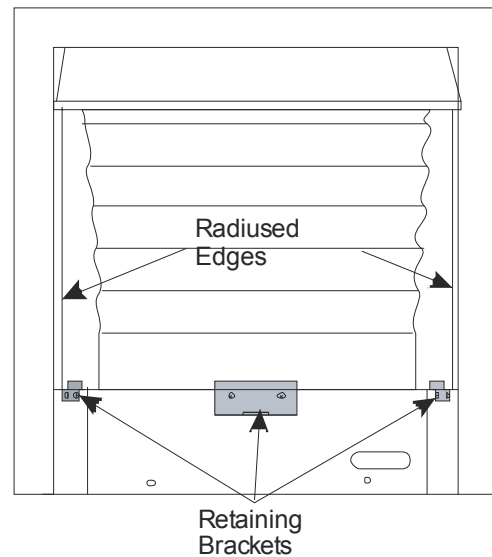

Figure 77
5. Refit in reverse order ensuring that the radiused front edges on the side panels are facing away from the flange of the firebox (see **Figure 77**). Also ensure that the top edge of the rear ceramic engages into the top retaining fold in the firebox.